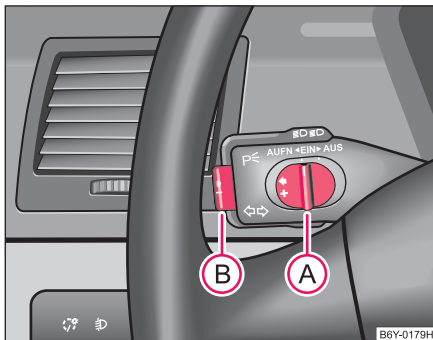

Fig. 86 Operating lever: Pushbutton and slide switch on the cruise control system
- Move the slide switch **(A)** ⇒ fig. 86 into the **ON** position.
- You can **increase** the stored speed without depressing the accelerator by shifting the slide switch **(A)** ⇒ page 101, fig. 86 to the **RES** position. ►
- You can likewise switch off the cruise control system by pushing the slide switch **(A)** ⇒ page 101, fig. 86 to the right into the intermediate position before the position **OFF**. The slide switch then moves back automatically into the **ON** position.
The **Resumption** of the stored speed is achieved by releasing the brake or clutch pedal, on vehicles fitted with automatic gearbox only after releasing the brake pedal and after shortly shifting the slide switch **(A)** ⇒ page 101, fig. 86 to the left up to the stop into the position **RES**.
- Move the slide switch **(A)** ⇒ page 101, fig. 86 up to the stop into the **OFF** position. ■